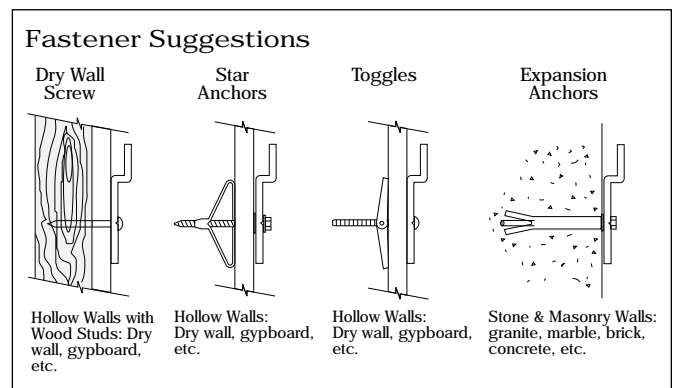

Fig. 5
3. Select fastening hardware. Fastening hardware is not included, owing to the many wall conditions, such as dry wall, wood, masonry and so on. A wide range of fasteners, such as those described below, are available from your local hardware. (Fig. 5) Please follow the manufacturers instructions for specific fasteners then secure hanger to wall surface.